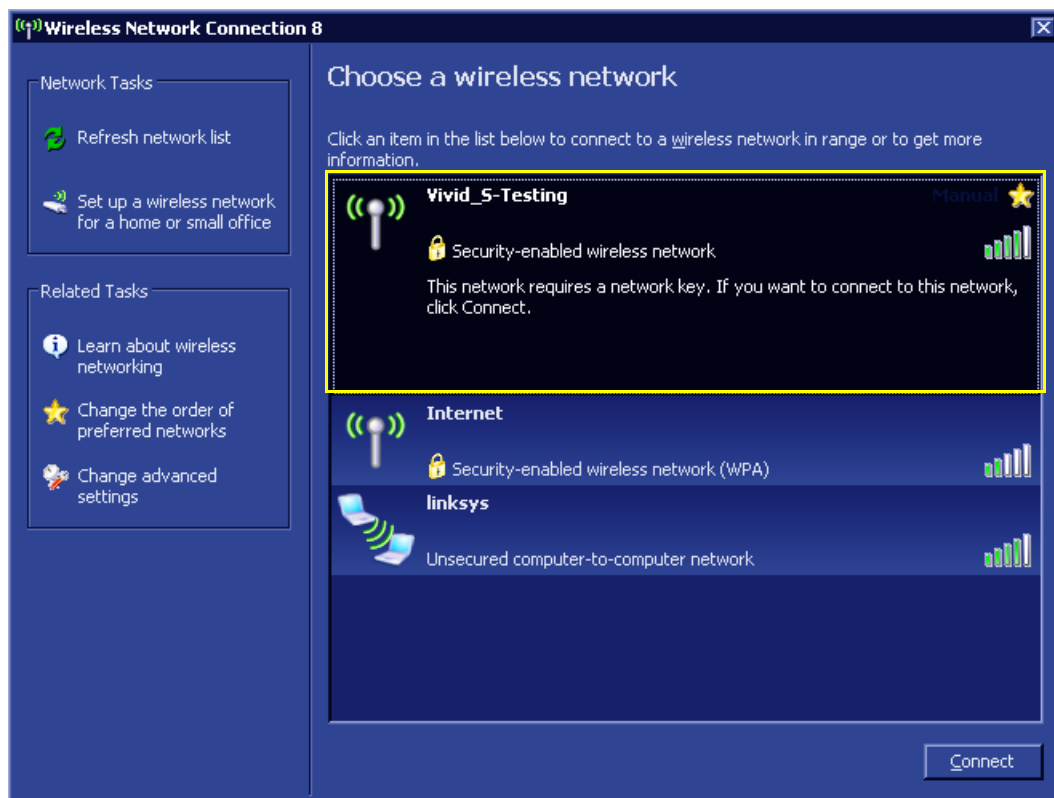

Figure 3-95 Wireless Network Connection 8
- 3.) From the Wireless Network Connection screen navigate to **Wireless Network Connection 8** and double-click to open the *Wireless Network Connection 8* screen - see Figure 3-95.
(In this example - Figure 3-95 - the wireless network connection is **Vivid_S-Testing**.)